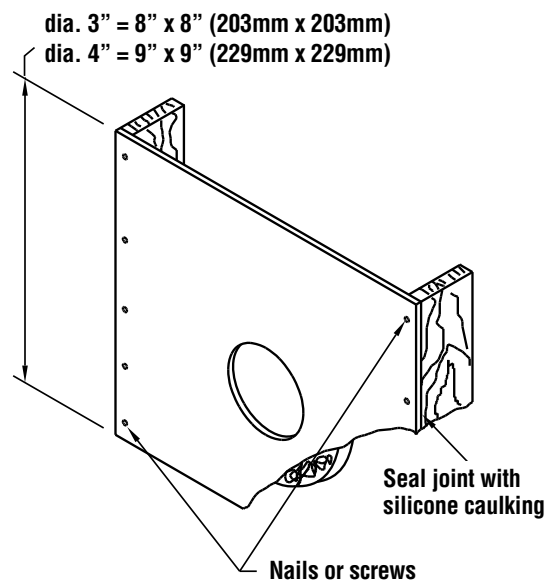

Figure 8a
3. Seal the joint between the wall thimble and the outside wall with silicone caulking (see *figure 8a*).
5. Seal the joint between the wall thimble and the outside wall with silicone caulking. See **figure 8a**.